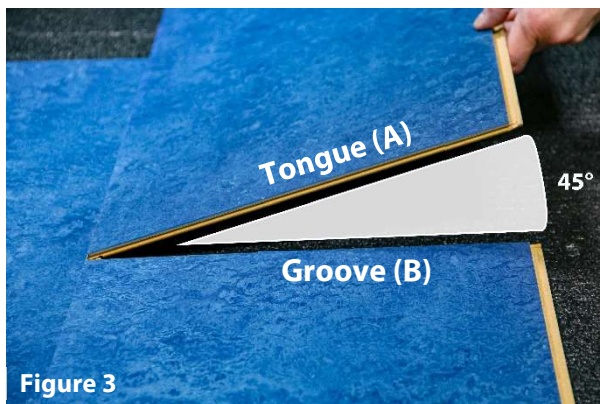

Figure 3
4. Place the tongue of the second piece into the groove of the temporary board at a 45° angle. See Figure 3.